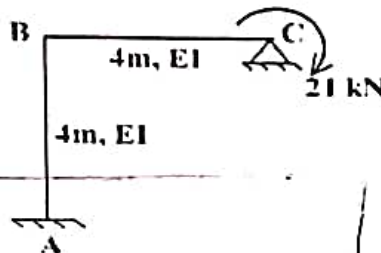

Fig. 2
- (c) Draw bending moment diagram of the frame shown in Fig. 2